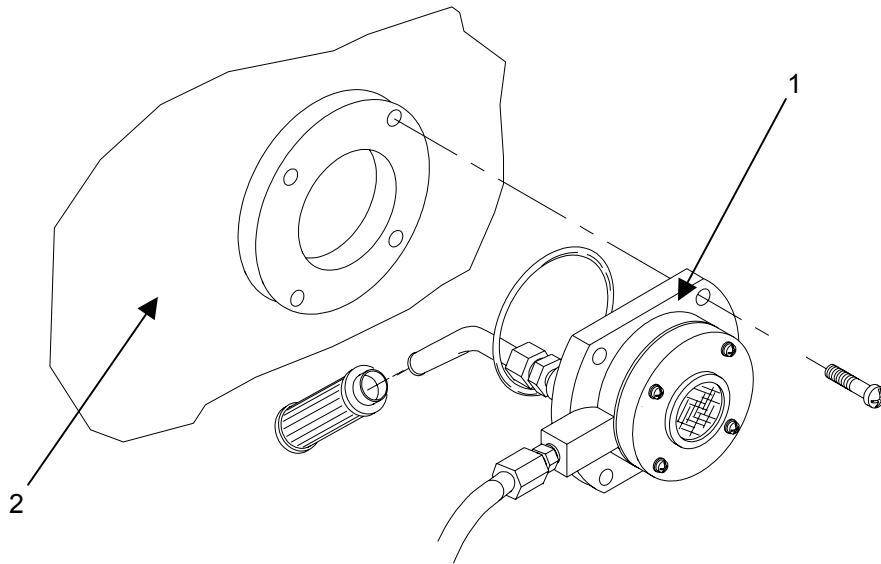

Figure 1. Inspect the Fuel Regulator Assembly
Inspect the regulator assembly (**figure 1, item 1**) for proper seating on the fuel tank (**figure 1, item 2**). Check for security of the valve head, and fuel line fitting. Ensure vent is not clogged.